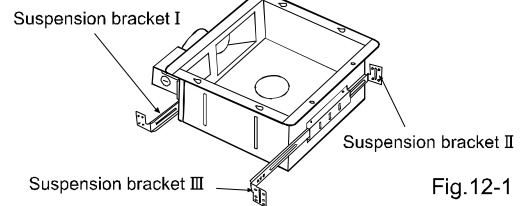

Fig.12-1
- Insert the suspension bracket into bracket cover of adaptor side and the back of the fan body (refer to Fig.12-1 of page 8).